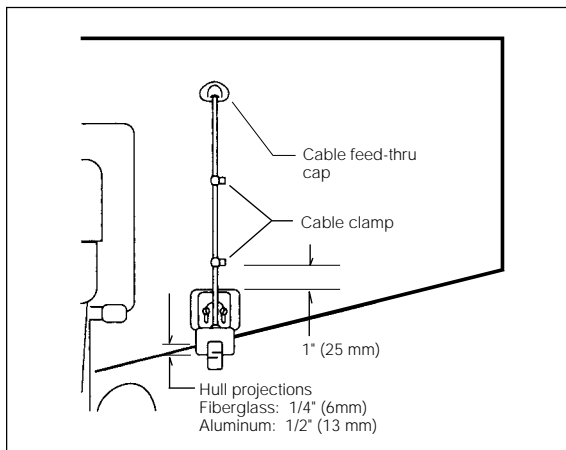

Fig. 2-13
1. Route the cable up and over the top edge of the transom. See Fig. 2-13. Secure the cable using cable clamps. (These clamps are available from your local marine equipment supplier.)